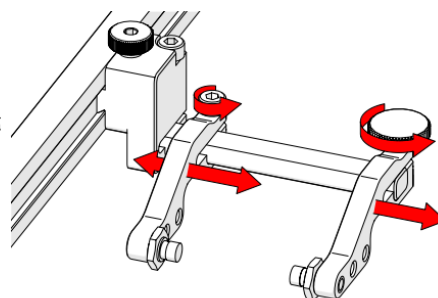

Fig. 3 - Probe holder arm adjustment
3. Position the probe holder arms after loosening the arm clamp screw or probe holder arm adjustment knob (Fig. 3).
4. Loosen the probe holder arm adjustment knob to remove the probe holder arm (Fig. 3).